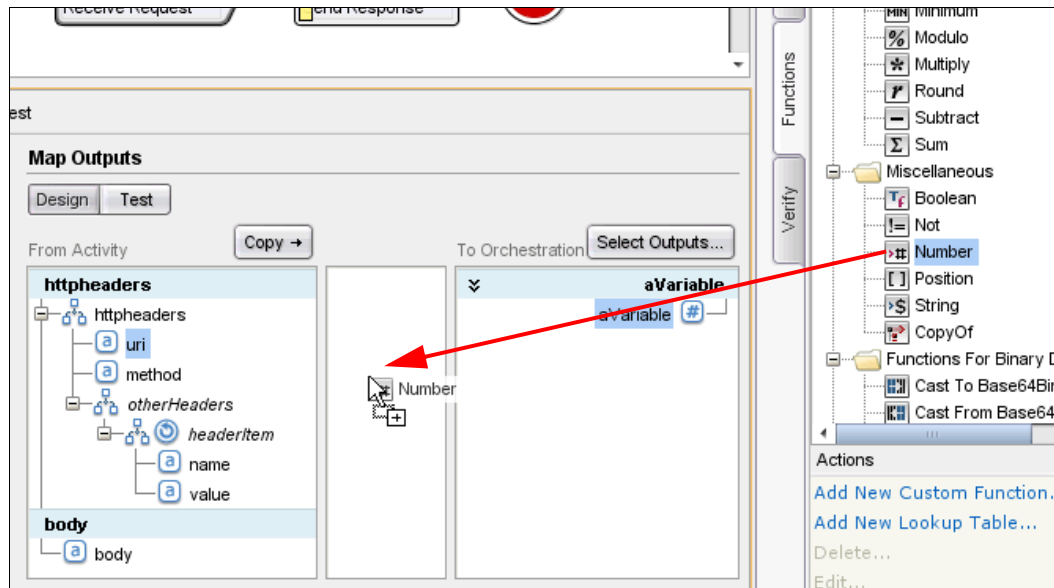

Figure 3-86 Using a function in the mapping editor
1. Drag the function that you want to use from the Functions toolbox tab to the middle pane of the mapping editor, as shown in Figure 3-86 on page 142.
The Number function in Figure 3-86 takes a string input parameter and converts it in to a number. As an example, this allows you to convert the uri field node to a number to store the value of that field node in the aVariable field node.